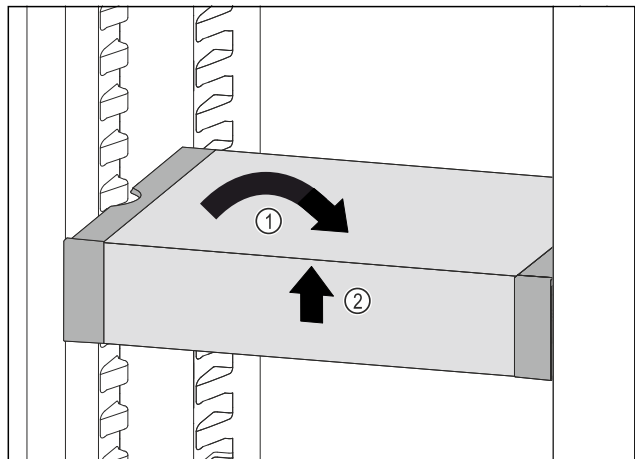

Fig. 143
- ▶ Set VarioSafe straight. Fig. 143 (1)
- ▶ Lift VarioSafe at the front. Fig. 143 (2)